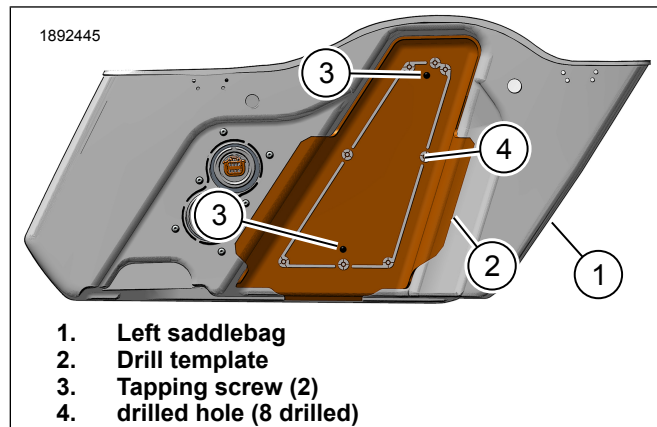

Figure 2. Left Saddlebag Drill Template
1. See Figure 2. Position drill template on left saddlebag.
- a. Mask off entire drill template (2) area on left saddlebag (1) with masking tape.
- b. Install drill template (2).
- c. Secure entire perimeter of drill template (2) with tape.
- d. Install tapping screws (3) to hold down drill template (2).